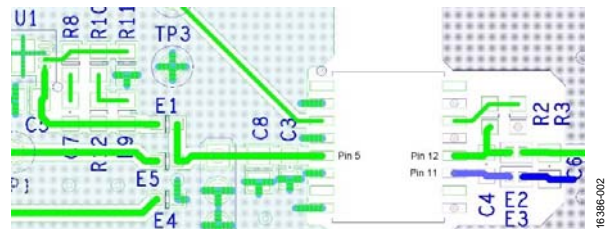

Figure 2. Layout Notes for EVAL-ADUM5020EBZ
To pass CISPR22/EN55022 Class B on a 2-layer PCB, the following layout guidelines are recommended (refer to Figure 2 and the schematic in Figure 5):
- Ensure that V_{ISO} (Pin 12) is connected first through the E2 ferrite before connecting it to the V_{ISO} load, as shown in Figure 2.
- Ensure that there is a keep out area in the PCB layout around the E2 and E3 ferrites, as shown in Figure 2 (no PCB planes under or alongside E2 and E3).